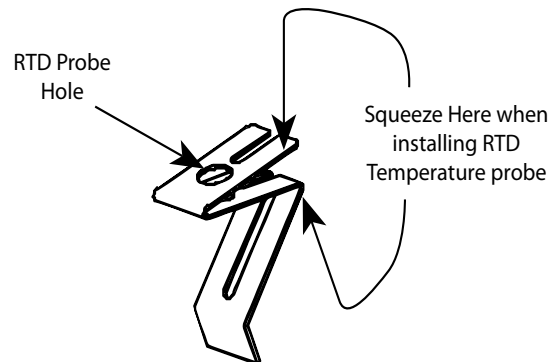

Figure J1
- ✓ Press and hold the MOTOR ON/OFF and ENTER/AUTORANGE keys simultaneously while turning the viscometer power on. Figure J1 appears on the viscometer display.